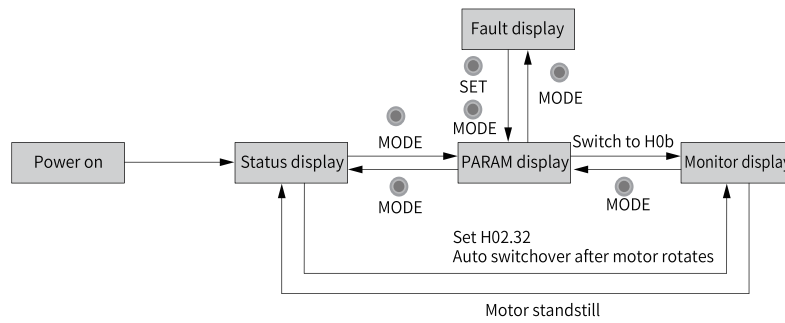

Figure 9-2 Switchover among different display modes
- Press MODE to switch among different display modes based on the conditions shown in “Figure 9-2” on page 174.